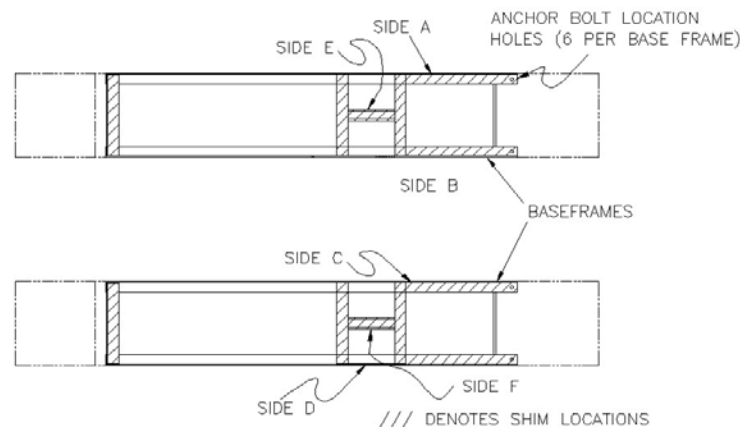

Figure 8 - Leveling Procedure Example
1. The highest point on the floor, noted from Section 5.1 step 6 is the point from which the base frame will be leveled from. Raise the lift to full height and, using a four (4) foot level across the base frames, verify again that this is the highest point.
2. Starting at the corner closest to the highest point, check along the length of the base frame edge with the four foot level and shim as required. **NOTE THE FIVE CRITICAL POSITIONS THAT SHIMS MUST BE PLACED ON EACH BASE FRAME OF EACH MAIN FRAME ASSEMBLY.** Refer to Figure 8.